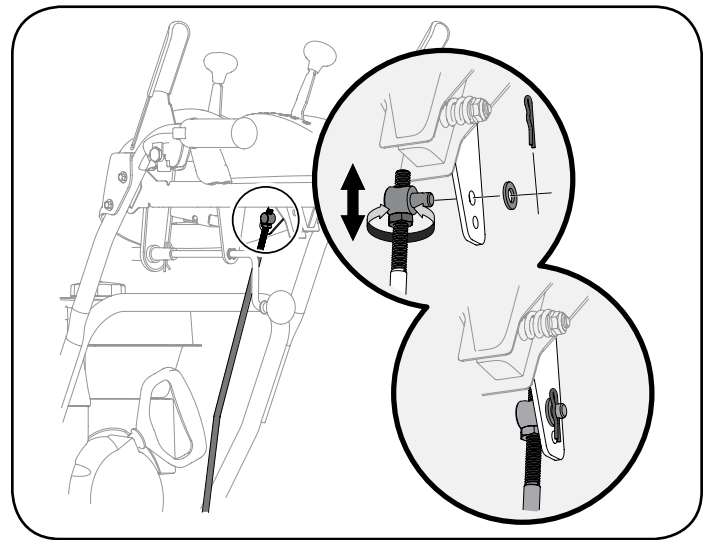

Figure 49
If the full range of speeds (forward and reverse) cannot be achieved, refer to the Figure 49 and adjust the shift cable as follows:
2. Remove cotter pin and washer from adjustment ferrule on shift rod and pull it out from shift lever. See Figure 49.
4. Rotate ferrule up or down on shift rod as necessary until it lines up with upper hole in shift lever. Refer to Figure 49 inset.